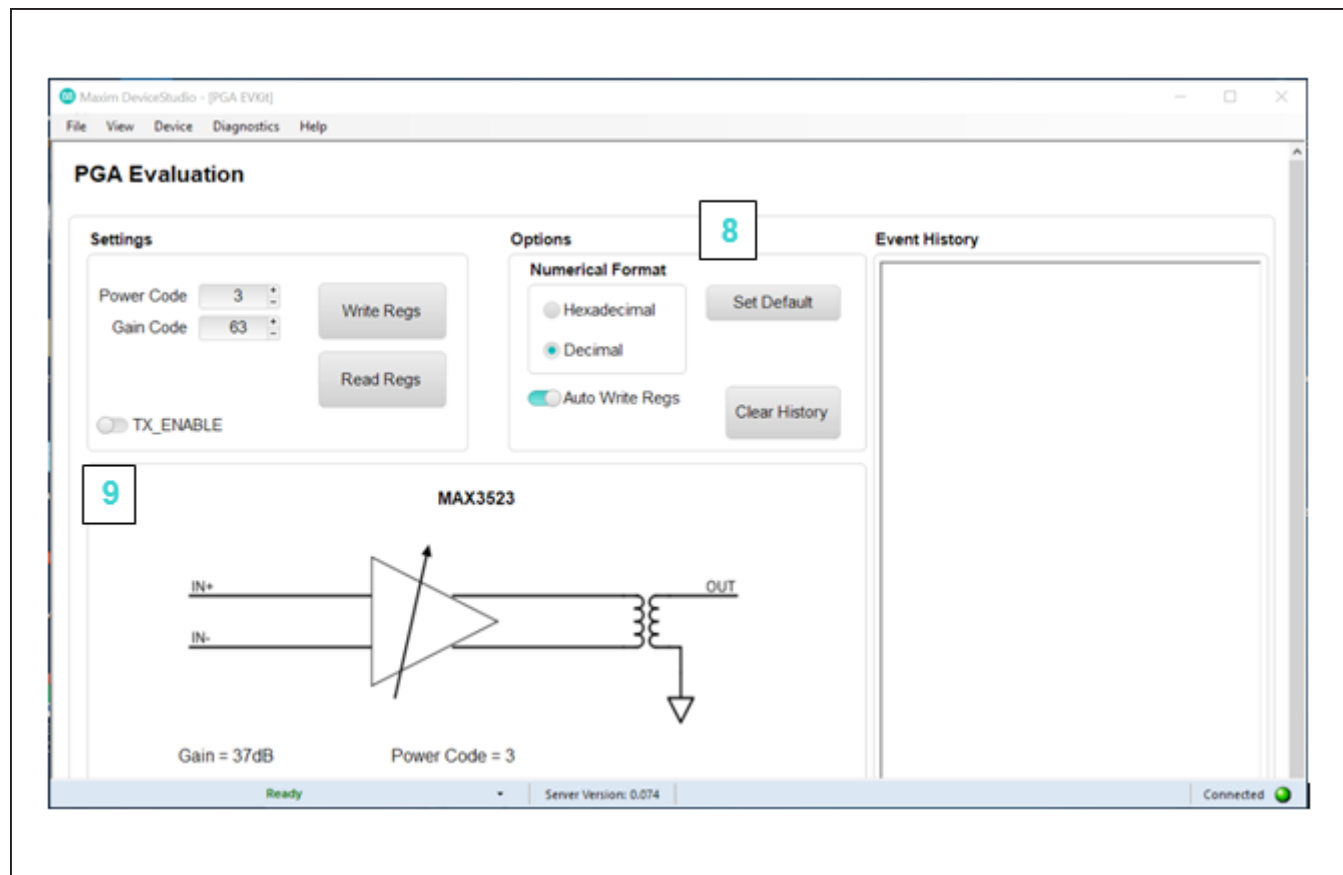

Figure 6. MX3523 EV Kit GUI
- 8) MAX3523 GUI should be launched, as shown Figure 6. Click "set Default"